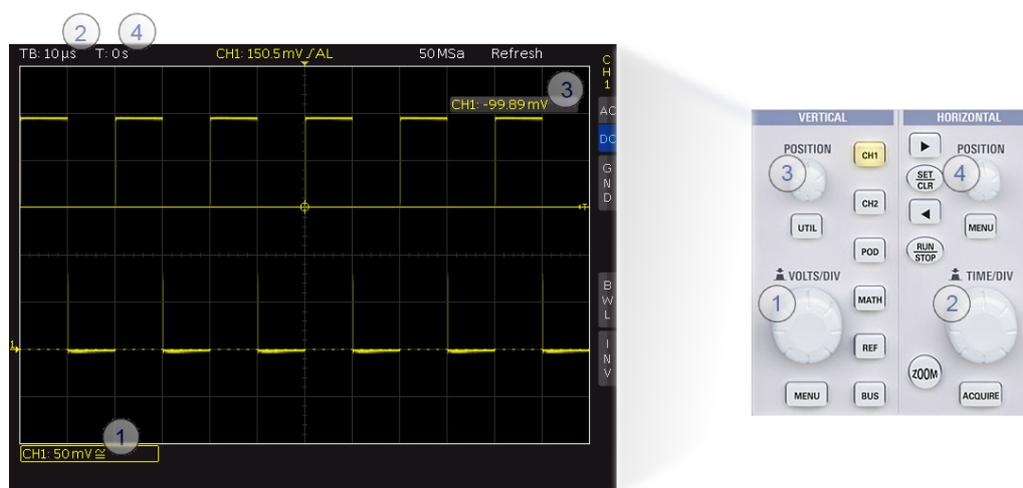

Fig. 2: Basic settings for the horizontal and vertical systems.
The HMO1002 display is divided into 12 horizontal and 8 vertical units. This allows the user to make a quick visual assessment of the readings and to scale the axes. See Fig. 2 for an introduction into the functionality for the horizontal and vertical systems.
The scaling for the vertical system is set using the large rotary knob labeled *VOLTS/DIV* (① Fig. 2, right). The associated vertical scaling is displayed at the left, under the signal for each active channel. For example, 50 mV means that the height of one grid square is equal to 50 mV1. This setting then equals a vertical display over the entire range of  $50 \text{ mV} * 8 = 400 \text{ mV}$ .
The timebase is set in a similar fashion using the *TIME/DIV* rotary knob (② Fig. 2, right). In the example provided in Fig. 2,  $10 \mu\text{s}$  is the length of one grid square. Consequently, the duration of the displayed signal is  $10 \mu\text{s} * 12 = 120 \mu\text{s}$ . Unlike the amplitude scaling, this setting applies to all channels. The rotary knobs labeled *POSITION* set the offsets for the vertical and horizontal systems.